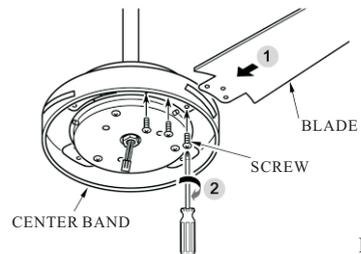

FIG. 12
1. Attach each blade assembly into the center band using the blade screws. Tighten them securely (see Fig.12)